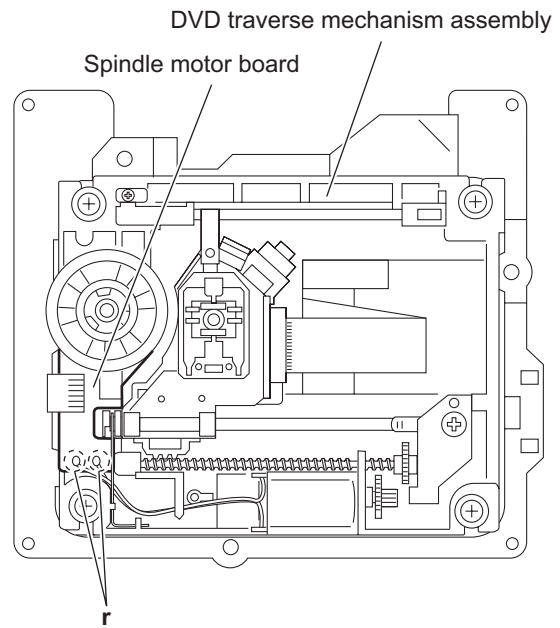

Fig.16
3.3.9 Removing the spindle motor board (See Figs.16 and 17)
- (1) From the top side of the DVD traverse mechanism assembly, remove the wires from the soldered sections **r** on the spindle motor board. (See Fig.16.)